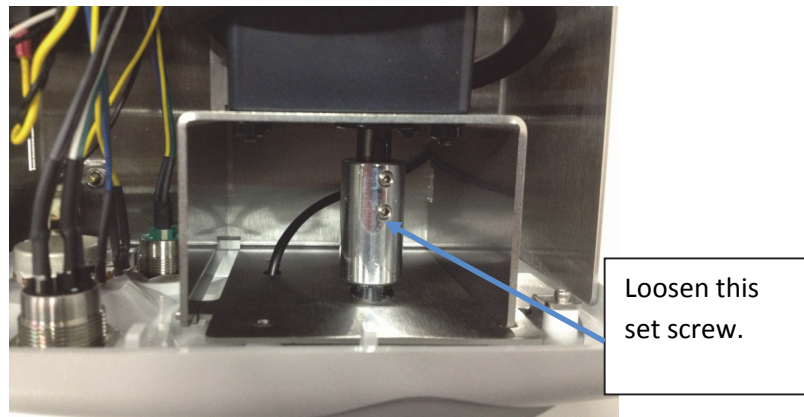

Figure 1
- Use a 3/32 inch hex wrench to remove the (3) screws form the Pump Head Mounting Plate. See in “*Component Replacement, Pump Head Replacement*” Section. Do not attempt to remove the reed switch cable from the machine.
- Using a 5/64 inch hex wrench, loosen the set screw closest to the motor on the Motor Shaft Adapter. See figure 1.